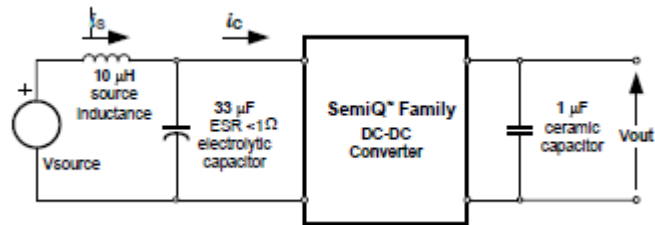

**Fig. 3.3V.14:** Test Setup for measuring input reflected ripple currents,  $i_c$  and  $i_s$
**Fig. 3.3V.1:** Available load current vs. ambient air temperature and airflow rates for SQ48T15033 converter with D height pins mounted vertically with Vin = 48V, air flowing from pin 3 to pin 1, and maximum FET temperature ≤ 120°C.
**Fig. 3.3V.3:** Available load current vs. ambient air temperature and airflow rates for SQ48S15033 converter mounted vertically with Vin = 48V, air flowing from pin 3 to pin 1, and maximum FET temperature ≤ 120°C.
**Fig. 3.3V.1:** Available load current vs. ambient air temperature and airflow rates for SQ48T15033 converter with D height pins mounted horizontally with Vin = 48V, air flowing from pin 3 to pin 1, and maximum FET temperature ≤ 120°C.
**Fig. 3.3V.4:** Available load current vs. ambient air temperature and airflow rates for SQ48S15033 converter mounted horizontally with Vin = 48V, air flowing from pin 3 to pin 1, and maximum FET temperature ≤ 120°C.
**Fig. 3.3V.5:** Efficiency vs. load current and input voltage for SQ48T/S15033 converter mounted vertically with air flowing from pin 3 to pin 1 at a rate of 300 LFM (1.5m/s) and  $T_a = 25^\circ\text{C}$ .
**Fig. 3.3V.6:** Efficiency vs. load current and ambient temperature for SQ48T/S15033 converter mounted vertically with  $V_{in} = 48\text{V}$  and air flowing from pin 3 to pin 1 at a rate of 200 LFM (1.0m/s).
**Fig. 3.3V.7:** Power dissipation vs. load current and input voltage for SQ48T/S15033 converter mounted vertically with air flowing from pin 3 to pin 1 at a rate of 300 LFM (1.5 m/s) and  $T_a = 25^\circ\text{C}$ .
**Fig. 3.3V.8:** Power dissipation vs. load current and ambient temperature for SQ48T/S15033 converter mounted vertically with  $V_{in} = 48\text{V}$  and air flowing from pin 3 to pin 1 at a rate of 200 LFM (1.0 m/s).
**Fig. 3.3V.9:** Turn-on transient at full rated load current (resistive) with no output capacitor at  $V_{in} = 48$  V, triggered via ON/OFF pin. Top trace: ON/OFF signal (5 V/div.). Bottom trace: output voltage (1 V/div.). Time scale: 2 ms/div.
**Fig. 3.3V.10:** Turn-on transient at full rated load current (resistive) plus 10,000  $\mu$ F at  $V_{in} = 48$  V, triggered via ON/OFF pin. Top trace: ON/OFF signal (5 V/div.). Bottom trace: output voltage (1 V/div.). Time scale: 2 ms/div.
**Fig. 3.3V.11:** Output voltage response to load current step-change (3.75 A – 7.5 A – 3.75 A) at  $V_{in} = 48$  V. Top trace: output voltage (100 mV/div.). Bottom trace: load current (5 A/div.). Current slew rate: 0.1 A/ $\mu$ s.  $C_o = 1$   $\mu$ F ceramic. Time scale: 0.2 ms/div.
**Fig. 3.3V.12:** Output voltage response to load current step-change (3.75 A – 7.5 A – 3.75 A) at  $V_{in} = 48$  V. Top trace: output voltage (100 mV/div.). Bottom trace: load current (5 A/div.). Current slew rate: 5 A/ $\mu$ s.  $C_o = 450$   $\mu$ F tantalum + 1  $\mu$ F ceramic. Time scale: 0.2 ms/div.
**Fig. 3.3V.13:** Output voltage ripple (20 mV/div.) at full rated load current into a resistive load with  $C_o = 10 \mu\text{F}$  tantalum +  $1 \mu\text{F}$  ceramic and  $V_{in} = 48 \text{ V}$ . Time scale:  $1 \mu\text{s}/\text{div}$ .
**Fig. 3.3V.15:** Input reflected ripple current,  $i_c$  (100 mA/div.), measured at input terminals at full rated load current and  $V_{in} = 48 \text{ V}$ . Refer to Fig. 3.3V.14 for test setup. Time scale:  $1 \mu\text{s}/\text{div}$ .
**Fig. 3.3V.16:** Input reflected ripple current,  $i_s$  (10 mA/div.), measured through  $10 \mu\text{H}$  at the source at full rated load current and  $V_{in} = 48 \text{ V}$ . Refer to Fig. 3.3V.14 for test setup. Time scale:  $1 \mu\text{s}/\text{div}$ .
**Fig. 3.3V.17:** Output voltage vs. load current showing current limit point and converter shutdown point. Input voltage has almost no effect on current limit characteristic.
**Fig. 3.3V.18:** Load current (top trace, 20 A/div., 20 ms/div.) into a 10 mΩ short circuit during restart, at Vin = 48 V. Bottom trace (20 A/div., 1 ms/div.) is an expansion of the on-time portion of the top trace.